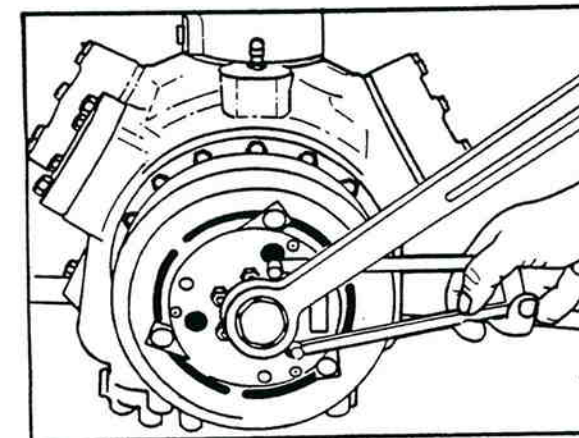

Figure 16-52: Armature Removal with Jacking Bolt
5. Install a $\frac{7}{8}$ -14 x 2" (51 mm) capscrew into the center hole of the armature. Use this capscrew as a jacking bolt to draw the armature from the compressor crankshaft. Secure armature with tool 20-296 as in step 4. See figure 16-52.
6. Install a $\frac{7}{8}$ -14 x 2" (51 mm) capscrew into the center hole of the armature. Use this capscrew as a jacking bolt to draw the armature from the compressor crankshaft. Secure armature with tool 20-296, as in step 4. See figure 16-52.